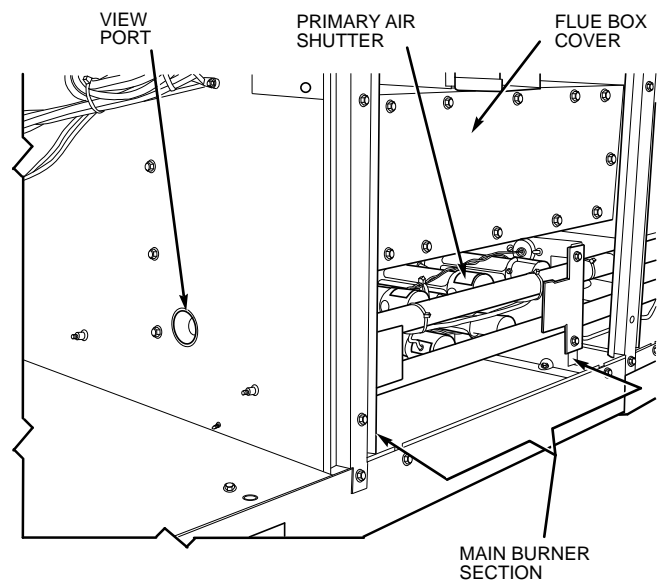

Fig. 37 — Typical Heating Section
5. With a small screwdriver, turn adjustment screw until flame fully engulfs sensor. Flame can be observed through view port (Fig. 37).
4. Loosen primary air shutter (Fig. 37) and adjust to a minimum opening of $\frac{5}{8}$ inch.